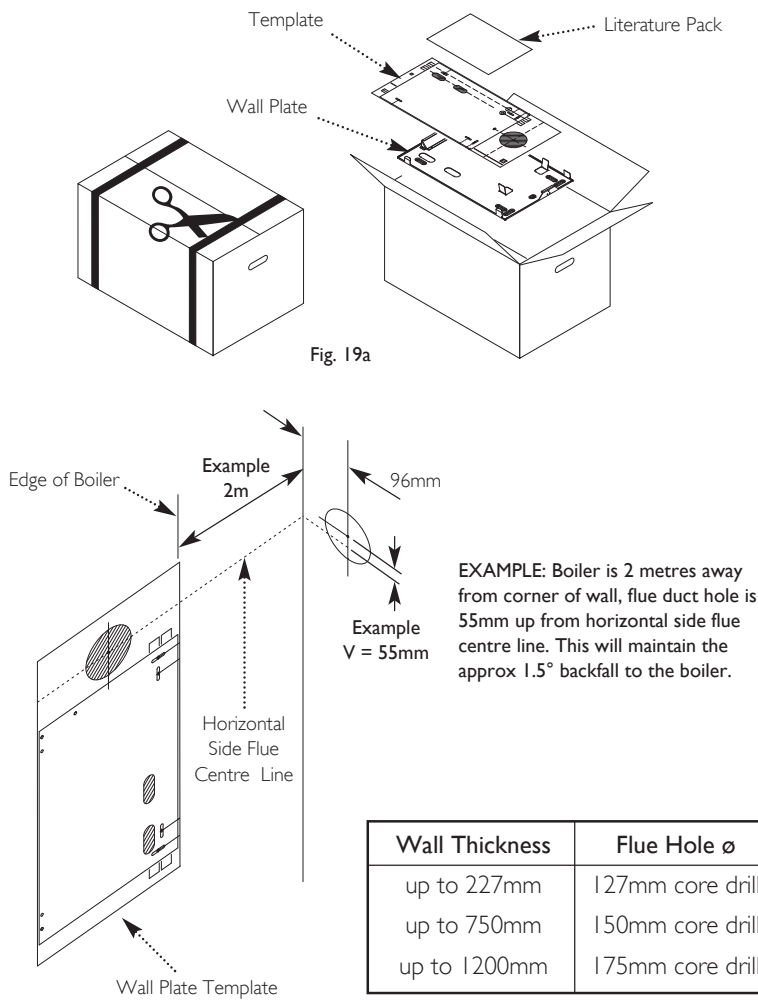

Fig. 20
3. Mark the position of the fixing holes for the wall plate (Fig. 20).
For side exit: project the horizontal side flue centre line into the corner of the room and along the wall to where the flue hole will be drilled. (Fig. 20).
5. Cut the hole for the flue (minimum diameter 127mm, see table (Fig. 20) for wall thicknesses and flue diameters).